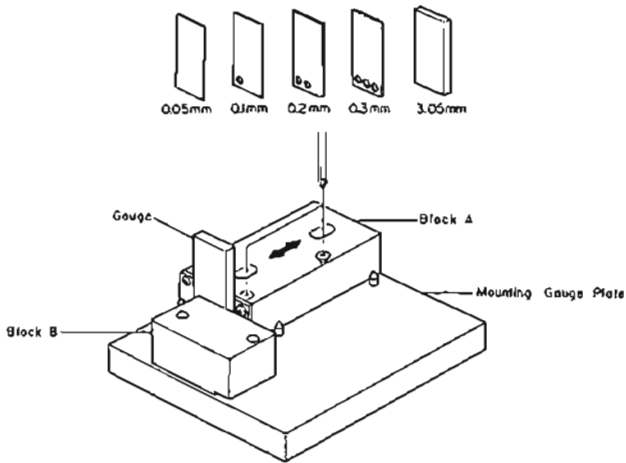
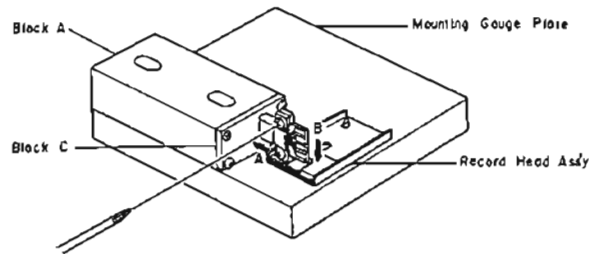

Fig. 2.18
Fig. 2.19
Refer to Figs. 2.18 and 2.19.
- (1) Check the accuracy of the record head stroke.
- (2) Remove Head Mount Base Assy.
- (3) Remove the record head assembly.
- (4) Adjustment of Record Head Mounting Gauge M-9048 (DA0-9048B)
- (c) As shown in Fig. 2.18, hold the Gauges (3.05 mm and 0.1 mm thickness) between the Block A and Block B, and fix the Block A with screws, pushing the Block A to the 2 guide pins.
- (5) Remove the Block B from the Mounting Gauge Plate.
- (6) As shown in Fig. 2.19, mount the record head assembly onto the Mounting Gauge Plate, then check the location of the record head surface. (If record head touches the Block C, loosen 2 pcs. of screws that assemble record head and record head plate, then place the record head assembly onto the Plate.)
- (7) Remove the record head assembly from the Mounting Gauge Plate.
- (8) Readjustment of Record Head Mounting Gauge M-9048 (DA09048B)
- (c) As shown in Fig. 2.18, hold the Gauges (3.05 mm and either one of 0.05, 0.15, 0.2, 0.25, 0.3 or 0.35 mm thickness) between the Block A and Block B, and fix the Block A with screws, pushing the Block A to the 2 guide pins.
- (9) Remove the Block B from the Mounting Gauge Plate.
- (10) Mount the record head assembly onto the Mounting Gauge Plate.
- (11) As shown in Fig. 2.19, loosen 2 pcs. of screws that assemble record head and record head plate.